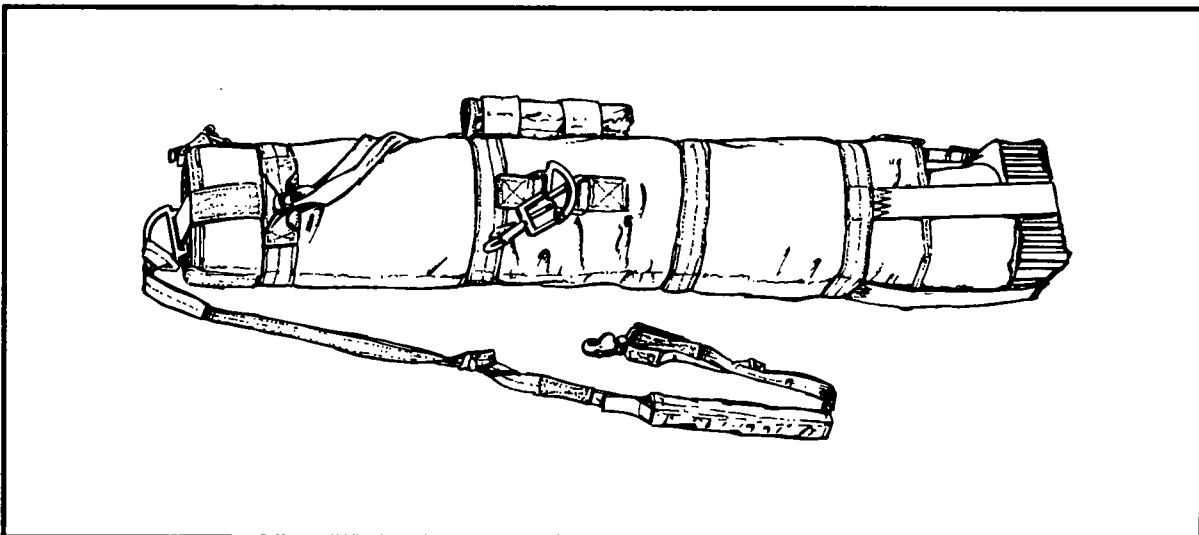

Figure 6-56. Attaching web secured.
- (1) Attach the lowering line to the lowering line attaching web by routing the loop of the lowering line through the small loop end of the lowering line attaching web.
- (2) Route the lowering line through its own loop and pull tight (Figure 6-56).
- (1) If not already installed, attach the lowering line attaching web to the forward end cross strap D-ring by routing the large loop around the D-ring.
- (2) Route the lowering line through the attaching web loop and pull tight (Figure 6-56).